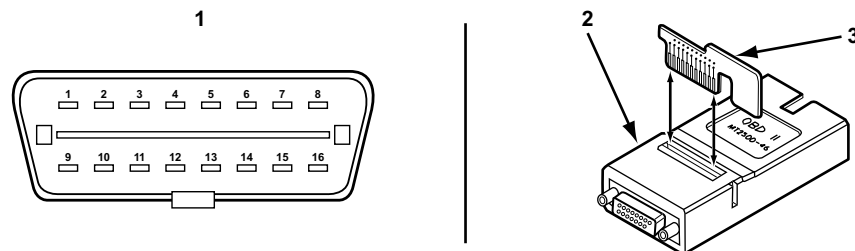

Figure 15-31 16-pin OBD-II connector with adapter and Personality Key™ device
- Use the OBD-II adapter with the specified Personality Key™ device (Figure 15-31).